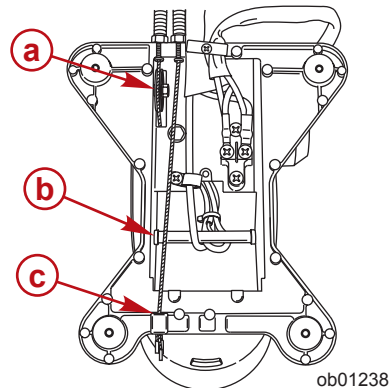

Figure 2
4. Reinstall the e-clip on the pivot pin. Check to ensure that the steering cables are positioned on the pulleys and tighten the tension on the cables for proper operation. See Figure 2, preceding.